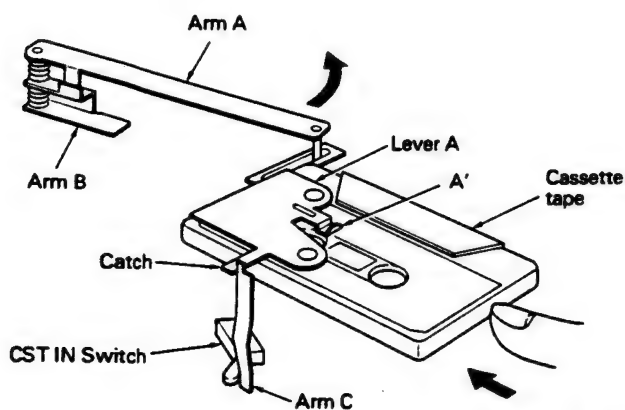
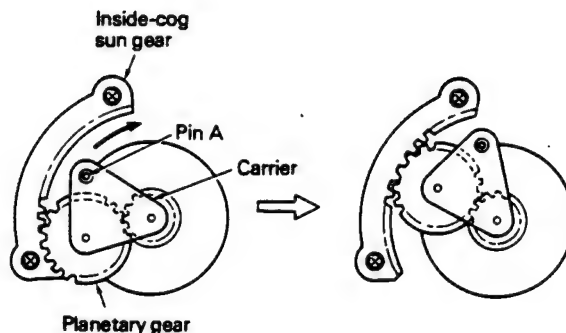

Fig. 9
Fig. 11
3. The carrier then moves clockwise because the planetary gear moves along the inside-cog sun gear. Pin "A" which is caulked to the carrier also moves in the same direction. (Fig. 11) The movement of pin "A" is causing arm "B" to move counterclockwise. Arm "A" turns in the same fashion and the "A" unit of lever "A" draws the cassette tape in. (Fig. 9)